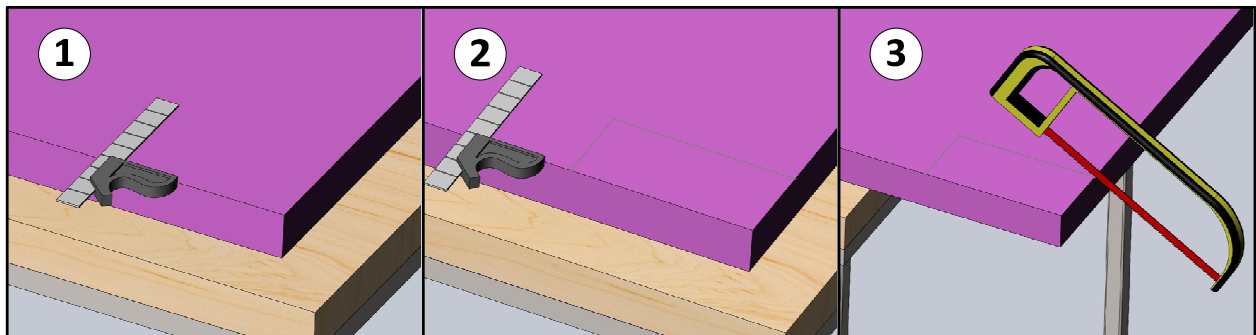

Figure 1: Layout and cut a block- (1) Use a combination square to mark out the lines. (2) Finished layout of the block. (3) Cut the block out using a hacksaw.
- A. Use the **Combination Square** and **Marker** to mark out a 4" x 8" rectangle on a sheet of styrofoam as shown in Figure 1.